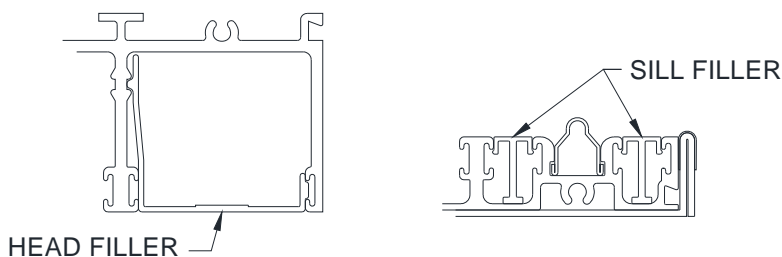

Figure 33:
6. Install Head Fillers into the head tracks and Sill Fillers into the sill tracks (Figure 33).